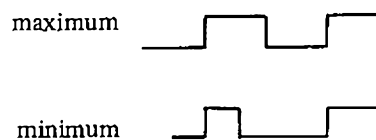

Fig. 4.12
- 3) Switch ON the **PITCH CONT** button and while watching the waveform of TP-2 on the oscilloscope, vary the SPEED by rotating the PITCH CONT KNOB from maximum through minimum. If the square wave duty changes as shown in Fig. 4.12, rotate R86 clockwise (CW), looking at it from the parts side of the DD CAPSTAN PCB, so that duty is about 50%. If the waveform is opposite to that in Fig. 4.12, then rotate R86 for a less than 50% waveform and R85 for a 50% duty.